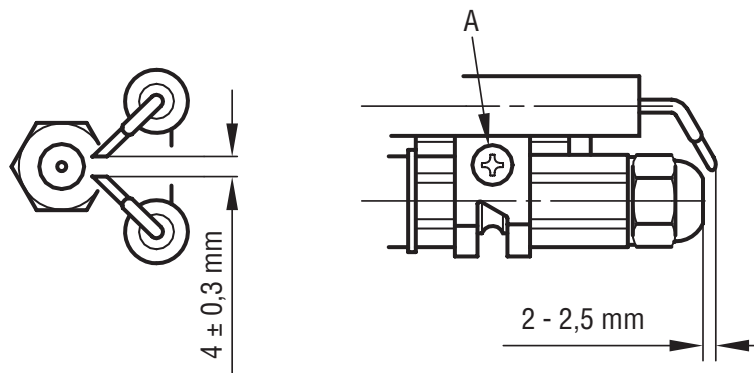

Fig. 17
The combustion head is cleaned in the following manner (fig. 17):
- Loosen the fixture screw (A fig. 17) of the electrodes support and remove it.